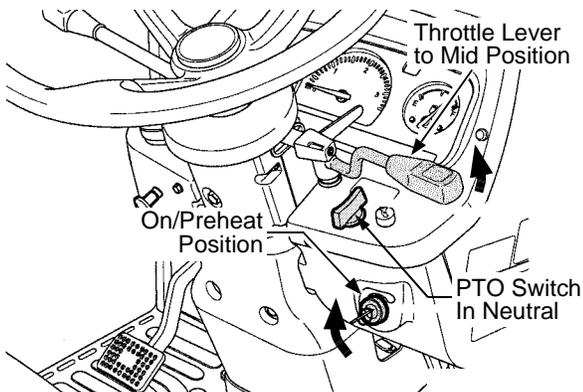

Figure 25
- Set the throttle lever in approximately the middle position (40hp). See Figure 25.
- Turn the ignition switch to the "ON/Preheat" position. Refer to Figure 25.